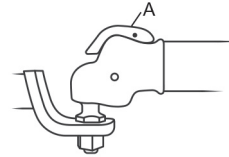

Figure 2
When finished the release-lever (A) **MUST** be in a fully down position as shown. (Figure 2)